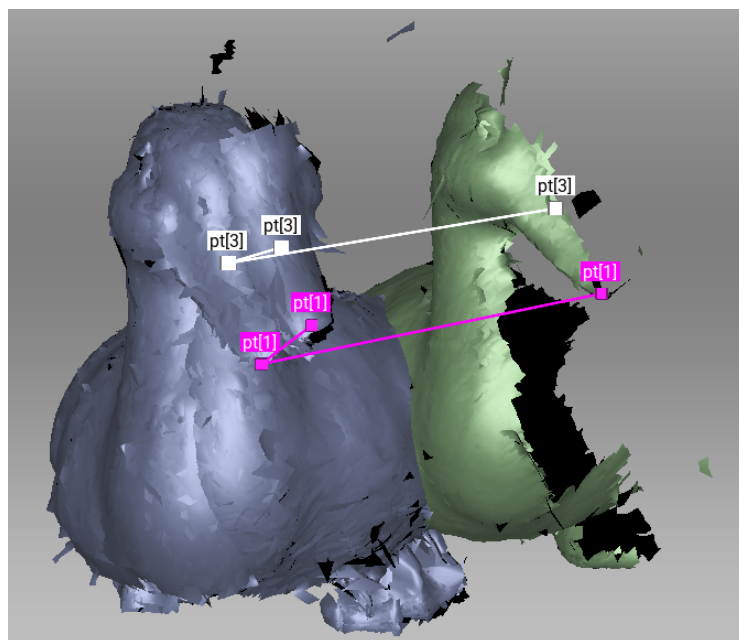

Figure 75: Before alignment: two point-set added.
When specifying points in the *Rigid* and *Nonrigid* modes, the application automatically creates pairs. Having specified one pair, you can immediately create the next one. In *Complex* mode you must confirm set creation by hitting `Space` or by clicking *New set* from the left panel, because the set may comprise multiple points (see Figure 69 and Figure 75).
3. Specify one or more point sets on the scan surface (see Figure 75), keeping in mind the recommendations in Specifying Points and Editing Their Positions.